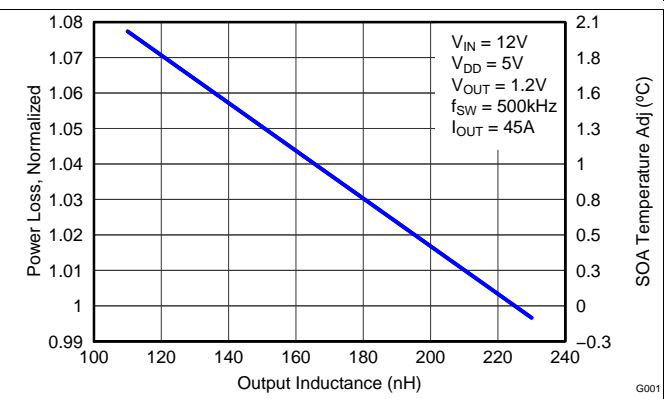

Figure 9. Normalized Power Loss vs Output Inductance
- Normalized Power Loss for output inductor \approx 1.02 (Figure 9)
- SOA adjustment for output inductor \approx 0.4°C (Figure 9)